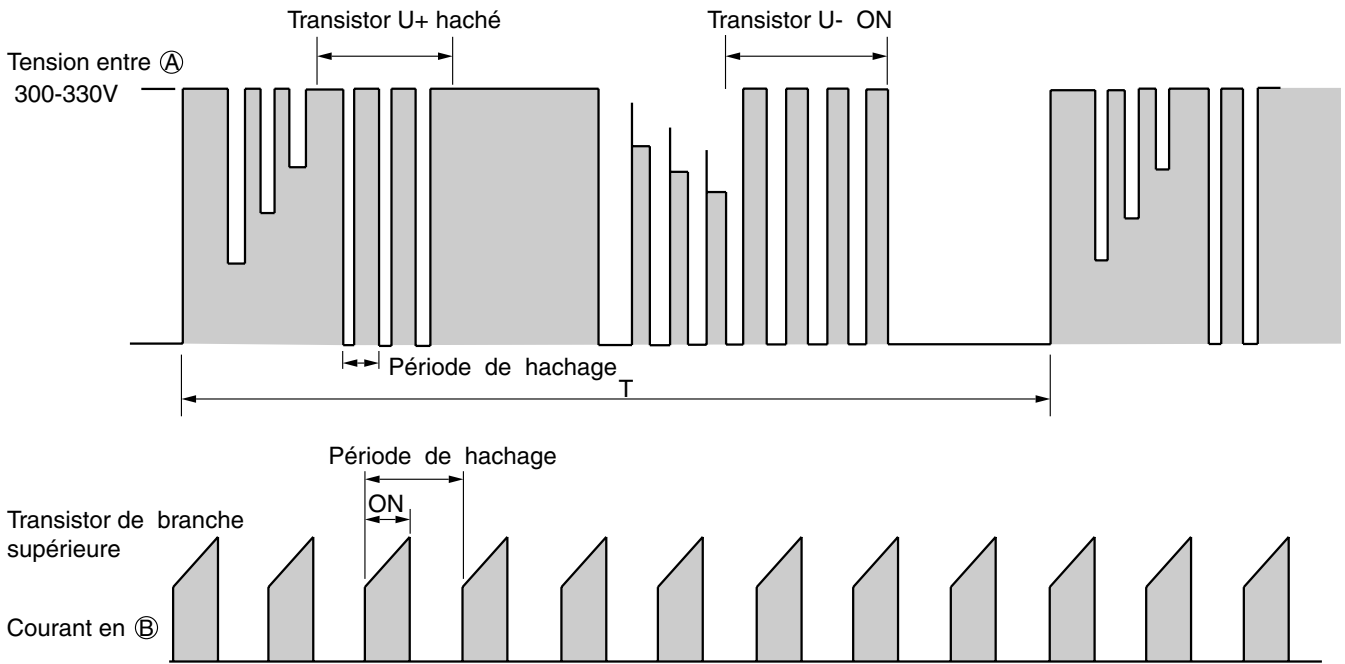

Fig. 3-3 Forme d'onde de la tension en chaque point.
- La Figure 3-3 représente la forme d'onde de la tension à chaque point dans les figures 3-1 et 3-4.
- Since current flows at point B only when U^+ transistor and V^- transistor is ON, the current waveform at point B becomes intermittent waveform as shown in Fig. 3-3. Since current at point B is approximately proportional to the input current of the air conditioner, input current is controlled by using DC current (I_d) detection resistor.